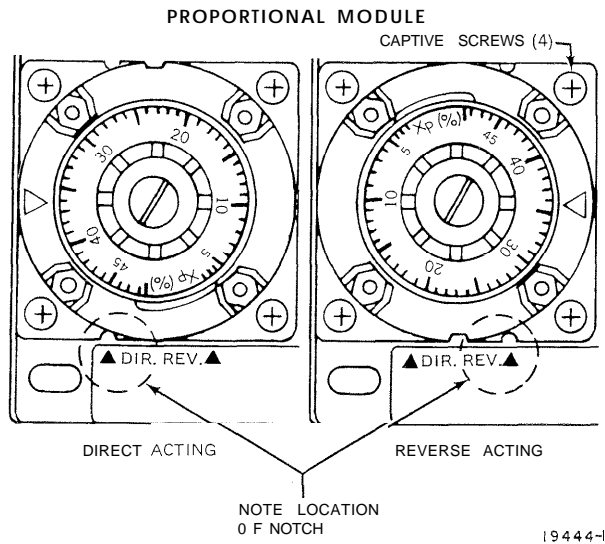

Fig. 15. Changing Controller Action
1. Loosen the four screws (Fig. 15) on the proportional module.